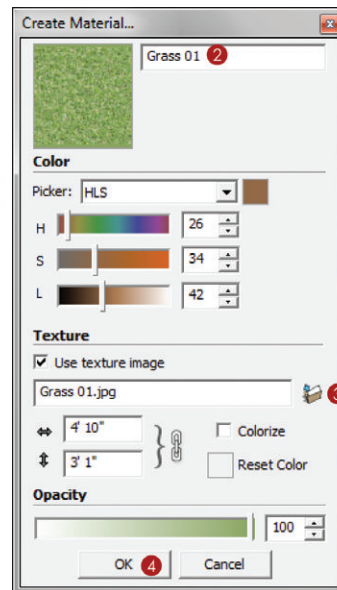

Figure 7.4 Use the Create Material dialog to modify the properties of a new material.
1. In the Materials browser, click the Create Material button to add a new material (see Figure 7.4). When you create a new material, the Create Material dialog opens and creates a copy of the active material.